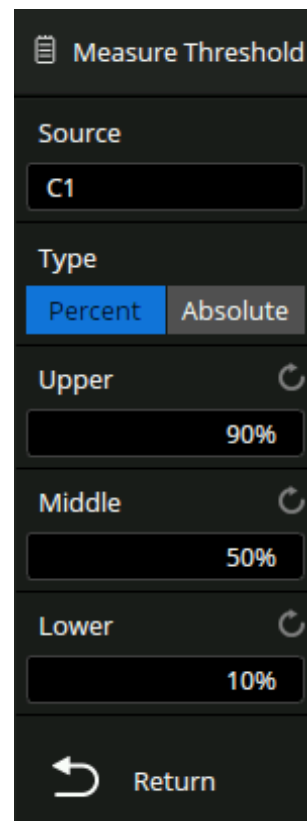

Figure 12.22
- The **Measure Threshold** menu shown in figure 12.22 will be displayed.